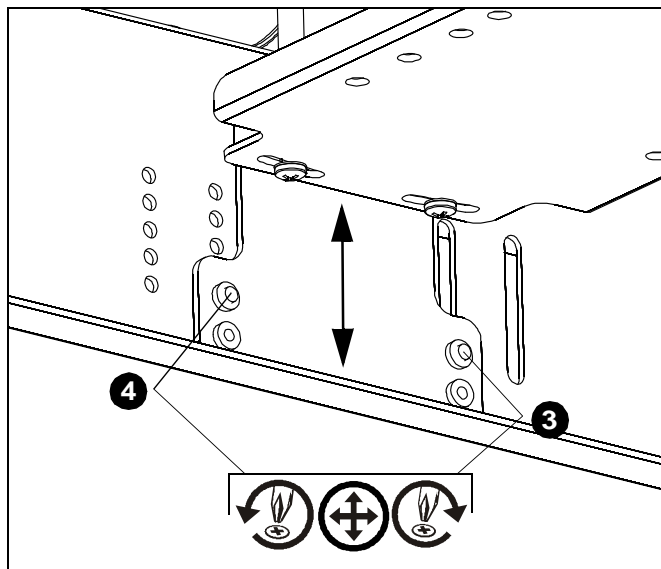

Figure 13
- Reinstall and tighten screws. (See Figure 13)
- Adjust and tighten screws on bracket. (See Figure 13)